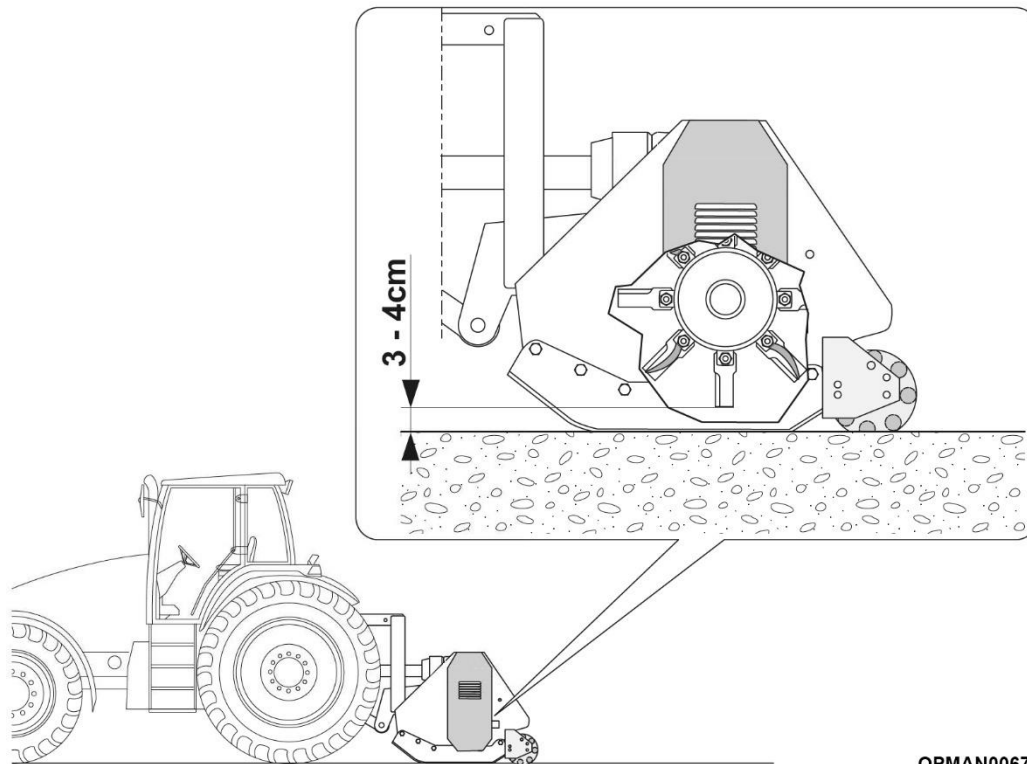

Figure 10
- Adjust the working height so that the flails are at about 3 - 4 cm from the ground (Figure 10).